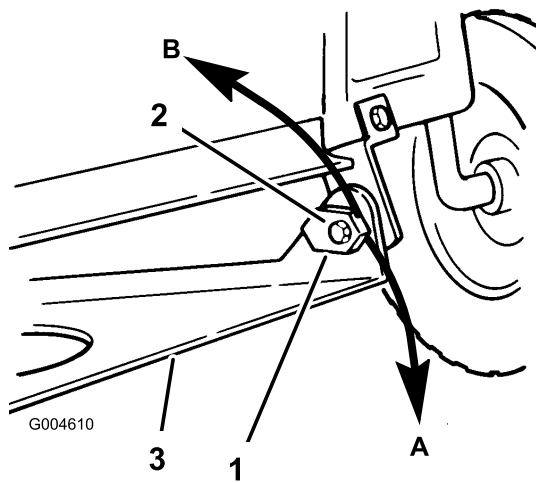

Figure 45
15. Adjust the front-to-rear slope by rotating the special slope adjusting nuts on both sides of the mower pivot mount (Figure 45).
16. Slowly rotate the left side slope adjusting nut down to raise the front of the mower; rotate the nut up to lower the front of the mower (Figure 45). Rotate the slope adjusting nut until the front of the mower is 1/4 to 5/8 inch (6 to 16 mm) lower than the rear of the mower.